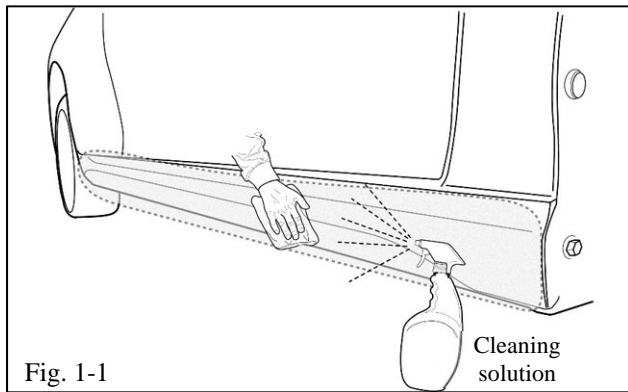

Fig. 1-1
- STOP** (b) Clean the entire application surface to remove grease and wax. Clean the entire area with a VDC-approved cleaner and cleaning method (Fig. 1-1).